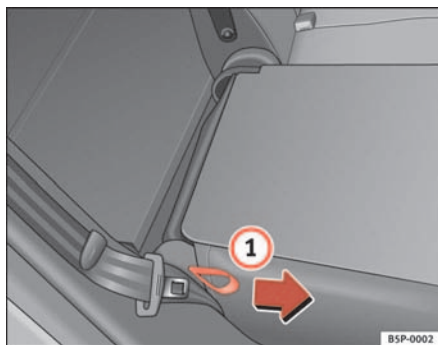

Fig. 98 Folding or opening the front seat backrests
- Pull the loop on the side of the seat ⇒ fig. 98 ① in the direction of the arrow and lift the seat backrest into position.